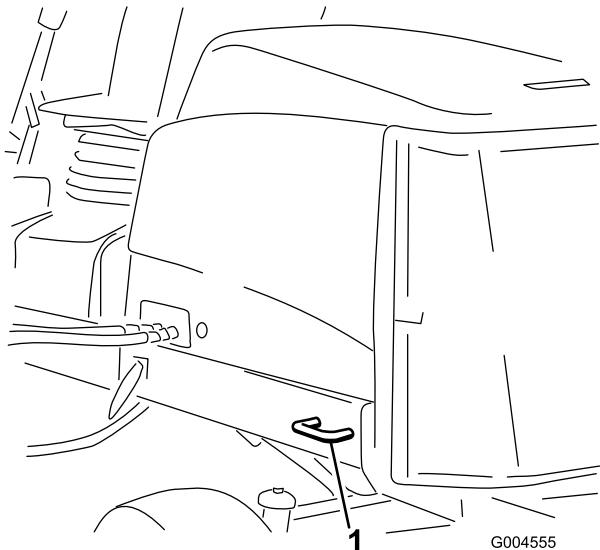

Figure 35
- Rear—each side of the machine on the rear frame (Figure 35).